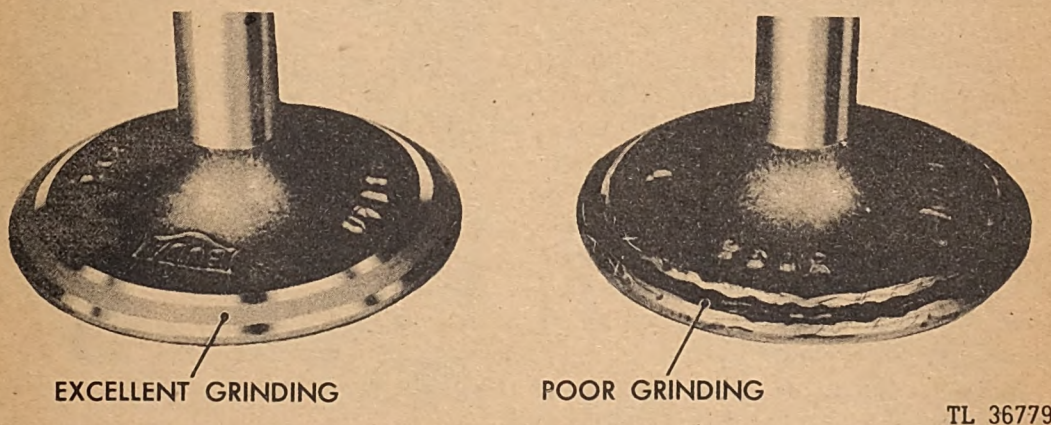

Fig. 127. Good and Bad Valve Grinding
*h. Grinding Valves.* When necessary to grind the valves, use a good quality, water soluble valve grinding compound. This type of compound loses its cutting properties on contact with oil. A valve grinding tool like the one shown in Figure 126 or one similar is recommended. The difference between a good grinding and poor grinding job can be seen in Figure 127.
If the valve and seat have the appearance of grey emery paper, apply a small amount of Prussian blue on the valve face. Wipe off the excess so just a faint trace of blue appears. Insert the valve and turn the valve on the seat one complete revolution under slight pressure. If the valve seat has a light blue ring completely around the seat, this indicates that the valve is seating properly. If the line is not complete, the valve and seat are not making complete contact and must be ground until they do. (See Figure 127.)